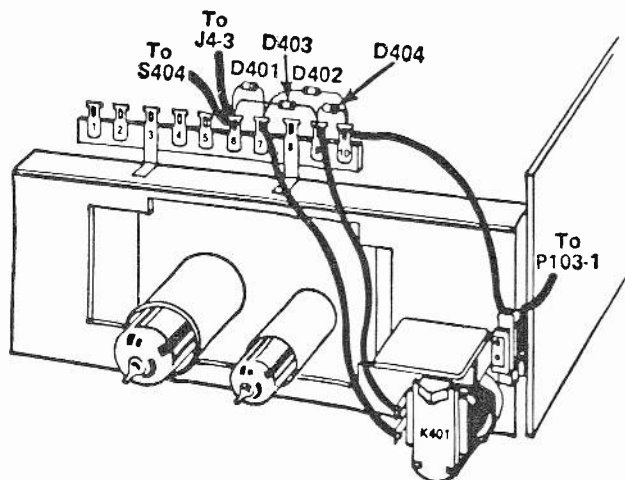

Fig. 1—Tuner assembly removed from cabinet to show component location of early production circuit.
Early production of the T950 chassis equipped with the 704059 Remote Receiver has the Volume ON/OFF relay, K401, connected in the rectifier bridge arrangement. The relay, Part No. 160418-6, and the bridge connected rectifiers, Part No. 530082-4, are physically located on the tuner mounting bracket as shown in the illustration (Fig. 1).
In current production units, the relay circuit has been modified, as shown schematically in the diagram, to provide greater reliability. If it becomes necessary to replace a stepping relay connected in an early production circuit, it is recommended that at the same time the circuit be modified to the later production circuit to reduce the chance of future relay failure. The steps for the field modification are as follows: Fig. 1 illustrates the original parts location and Fig. 2 illustrates the parts location for the field modification. The terminals of the terminal strip have been numbered sequentially, 1 through 10, with terminal 1 nearest the front of the tuner assembly.
- Remove the discard diodes D403 and D404 (Fig. 1) which are installed between terminals 6 and 9, and between 9 and 10.
- Remove the two wires connected to terminal 6 (Fig. 1) and reconnect them to terminal 1 (Fig. 2).